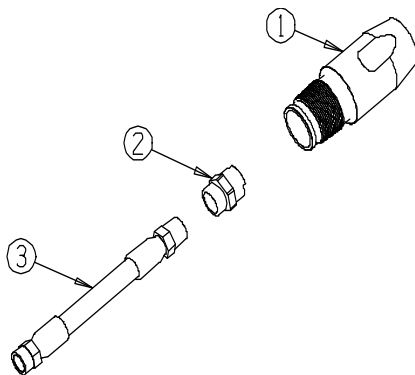

Figure 10-1
- Tail Adapter, Quick Disconnect (Q.D.) Fitting, Whip Hose (Figure 10-1).